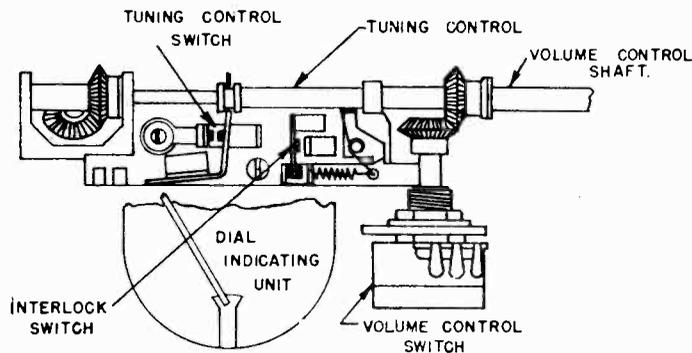

Fig. 2
1. The tuning control switch does not close when the tuning control is operated. (See Fig. 2)
2. The interlock switch does not close when the tuning control is operated. (See Fig. 2)
1. The interlock is continuously closed. (See Fig. 2)